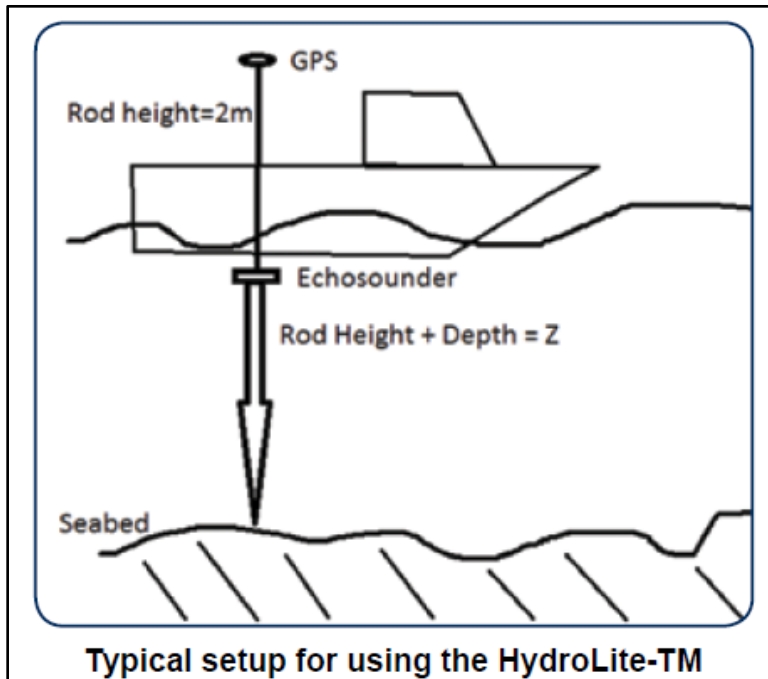

Figure 3.—Measurements required for HydroLite-TM setup.
1. Measure draft from water surface to bottom of transducer with all people and equipment in boat (figure 3).